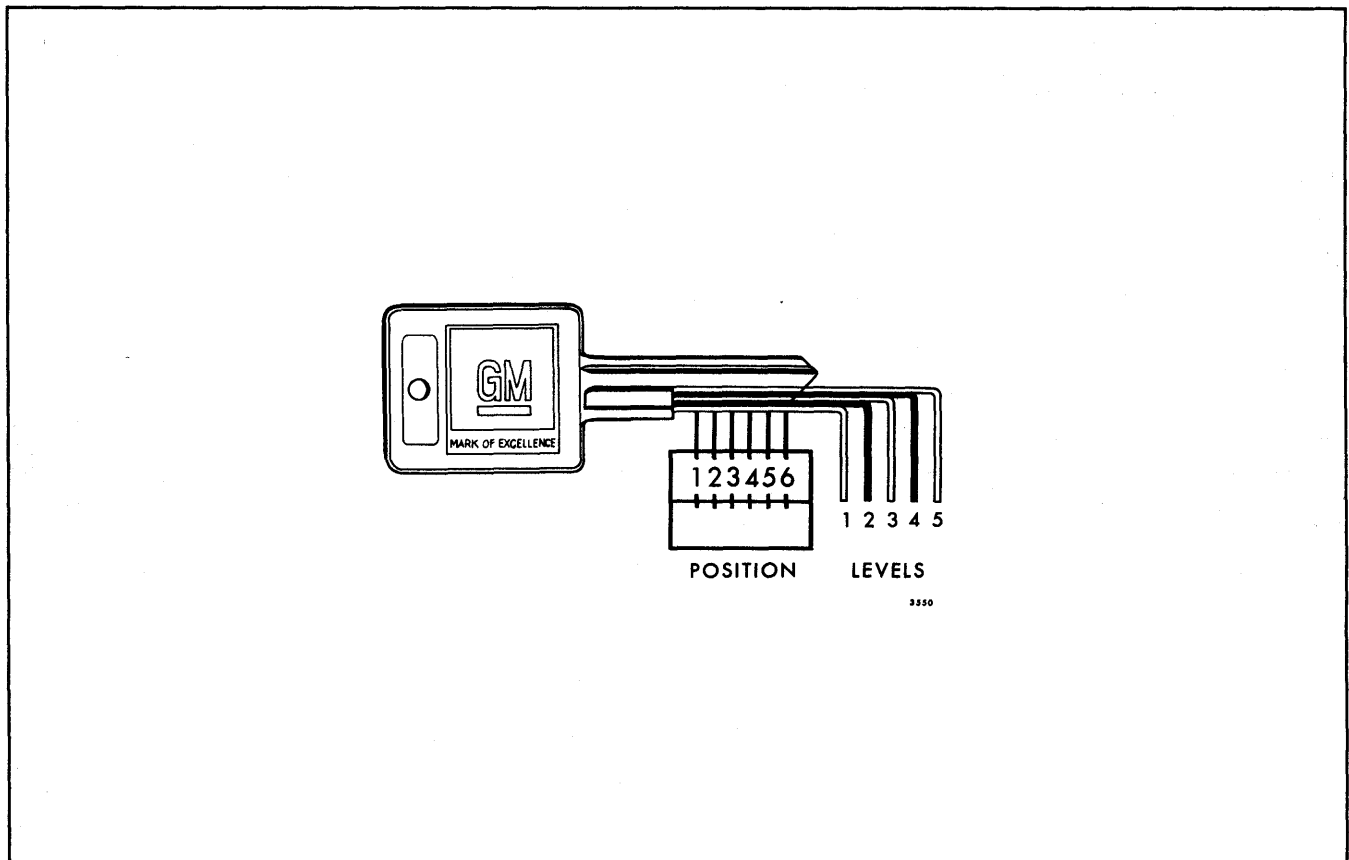

Fig. 1-4—Key Code Diagram
Key code numbers are stamped on the "knockout" plug in the key head and on the lock cylinder housing (to facilitate replacement or duplication of key). After the code number has been recorded by the owner, the plugs should be knocked out of the key head. From these numbers, the lock combination can be determined by use of a code list (available to owners of key cutting equipment from equipment suppliers). If key code numbers are not available from records or from the "knock-out" plug, lock combination (tumbler numbers and position arrangement) can be determined by laying the key on the diagram in Figure 1-4.
After the special code has been determined, either from the code list or the Key Code Diagram (Figure 1-4) cut a blank key to the proper level for each of the six tumbler positions, and check the key in the lock cylinder. The new key should agree with the combination opposite the code number in the code list.
- a. Lay the key on the Key Code Diagram (Figure 1-4) with the key outlined by the diagram as accurately as possible.